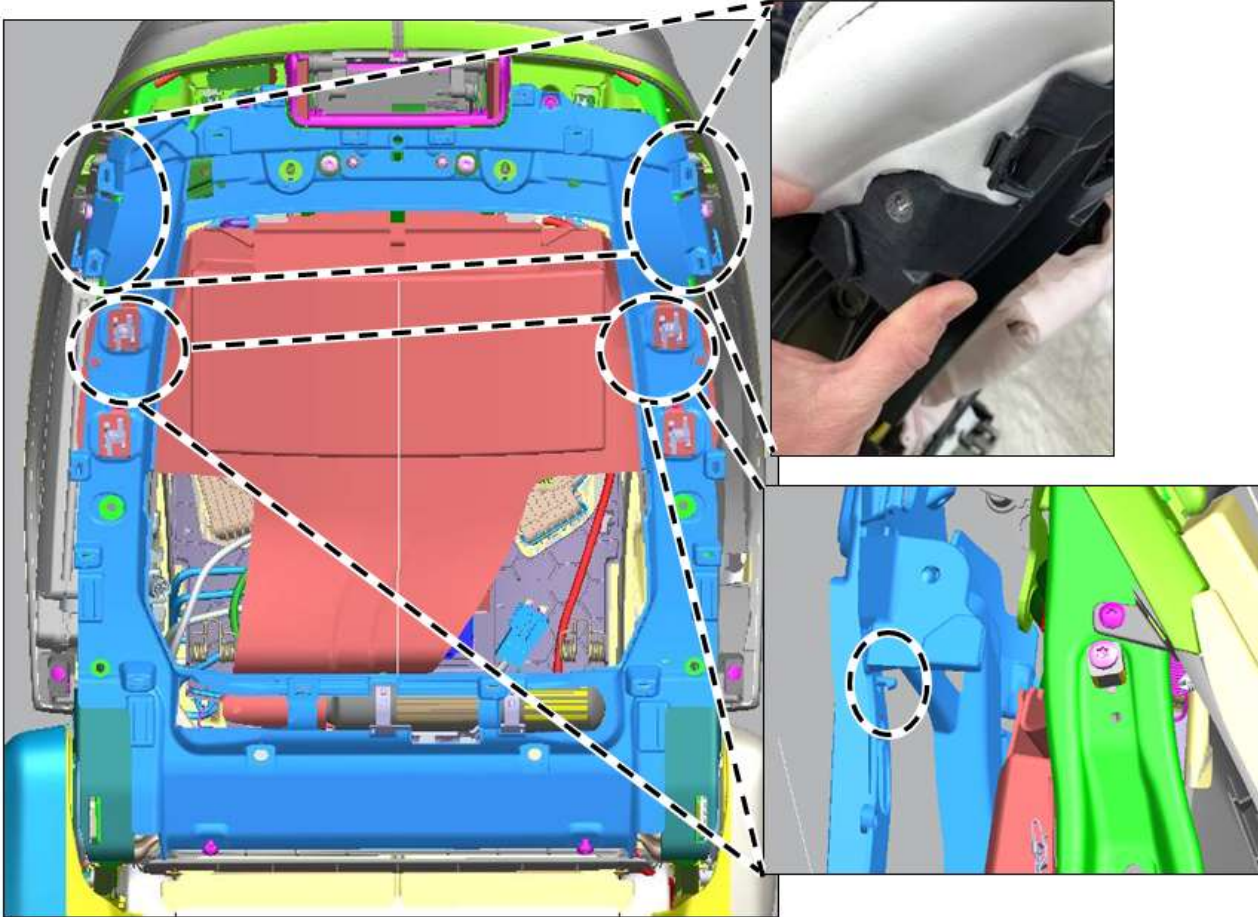

Figure 10
7.4. Unclip upper left and right bracket (figure 10).
i Pay attention to the hook of the seat backrest frame (figure 10)!